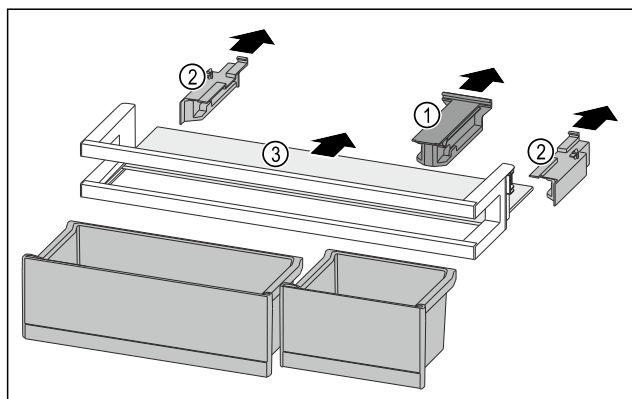

Fig. 176
- ▶ Pull off the holding part Fig. 176 (1).
- ▶ Pull off the side parts Fig. 176 (2).
- ▶ Remove the shelf Fig. 176 (3).